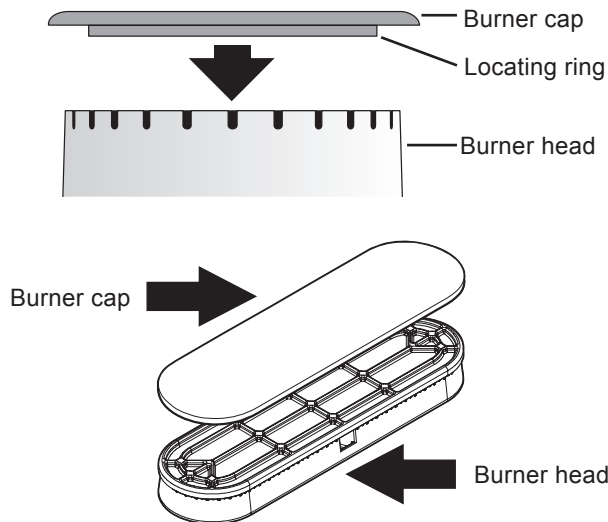

Figure 19: Burner cap assembly
1. Place a burner cap on each burner head, matching the cap size to the head size (see Figure 19). The cap for each burner has an inner locating ring which centers the cap correctly on the burner head.